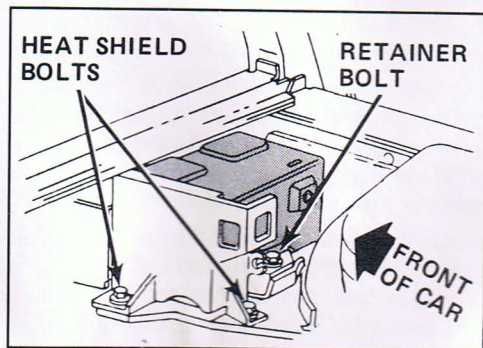

Figure 2 - Battery compartment
5. Remove the battery retainer by unscrewing the retainer bolt. See Figure 2.
2. Unlatch the fuse block from the instrument panel by pushing in on the two release tabs located at the center of the door. See Figure 2.
• Figure 2 - Releasing fuse block